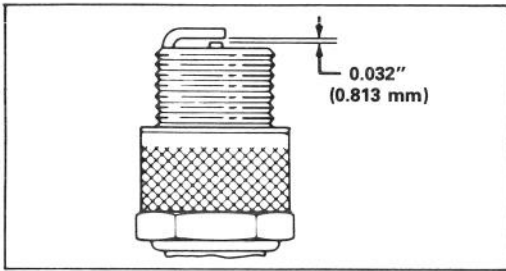

Figure 12
3. Set air gap at 0.032" (0.813 mm) (Fig. 12). Install correctly gapped spark plug and gasket seal. Tighten plug firmly to 15 ft-lb (20.4 N-m).